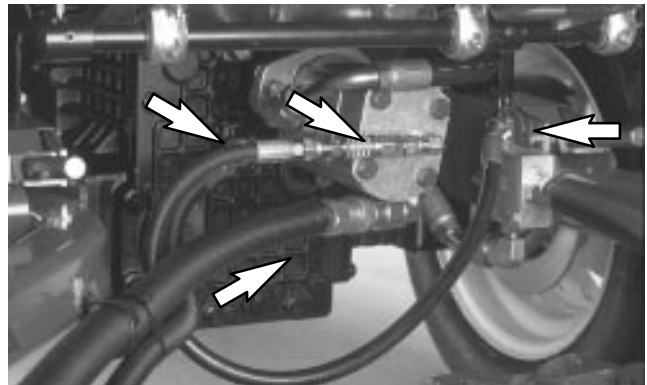

Figure 9
10. Connect hydraulic line quick couplers to hydraulic kit fittings on front of traction unit axle and oil filter assembly at locations shown in figure 9.